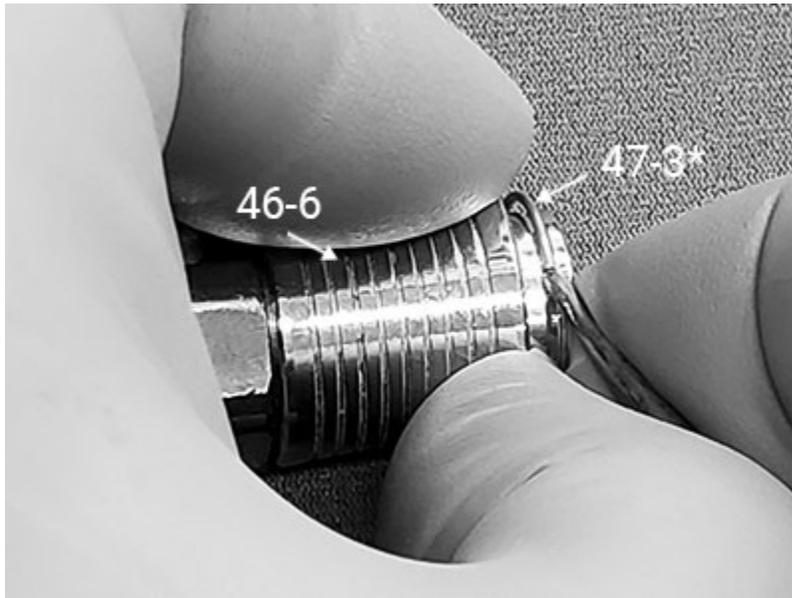

Fig. 54
1. With the Collar (46-6) locked back, use a fingernail or sharp tool to catch the end of the C-Clip (47-3*) and lift it out of its groove in the Body (46-3) - Fig. 54.